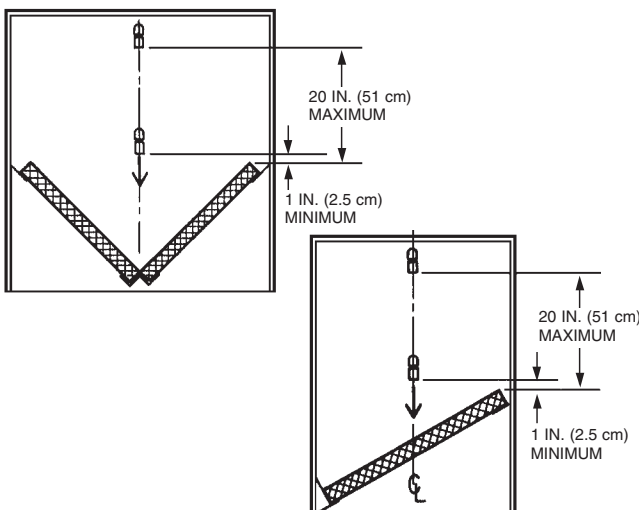

FIGURE 7
- ▶ **Option 1:** The 1W nozzle must be on the center line of the single or “V” bank filter and positioned within 1-20 in. (2.5-51 cm) above the top edge of the filter. See Figure 7.